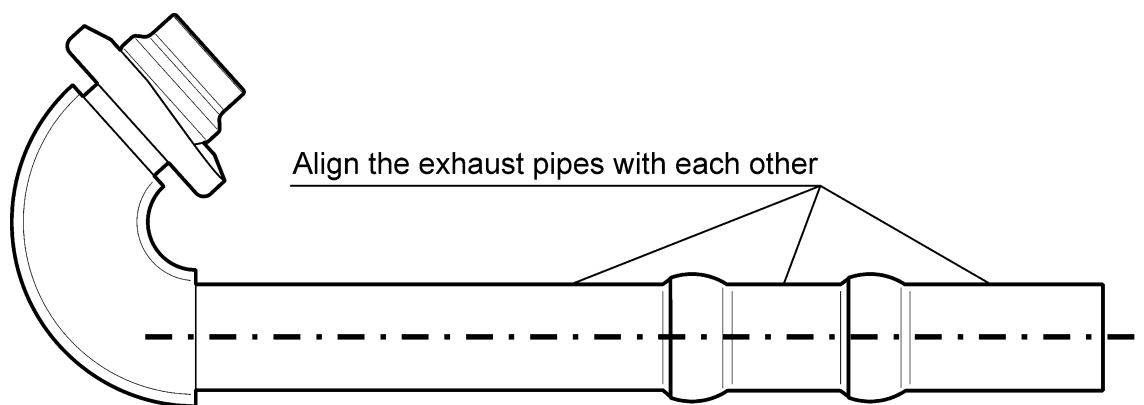

Fig. 3 – Exhaust pipelines – the coaxial alignment
- h) Align the exhaust pipelines (Fig. 3) in the straightened position.